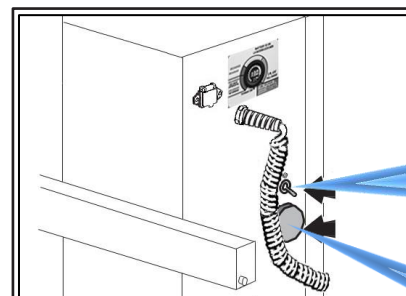

Figure 22
4. On the left side of the electrical control box you will find the red emergencystop (E-Stop) button. Pushing the knob in disconnects battery power. Above the knob is an on-off switch that operates the Control Circuit Breaker (Figure 22).
3. If nothing happens when you press the UP button, including no motor or pump sound, then check the emergency stop (E-Stop) button and on-off circuit breaker switch (Figure 22). It may be in the off position.